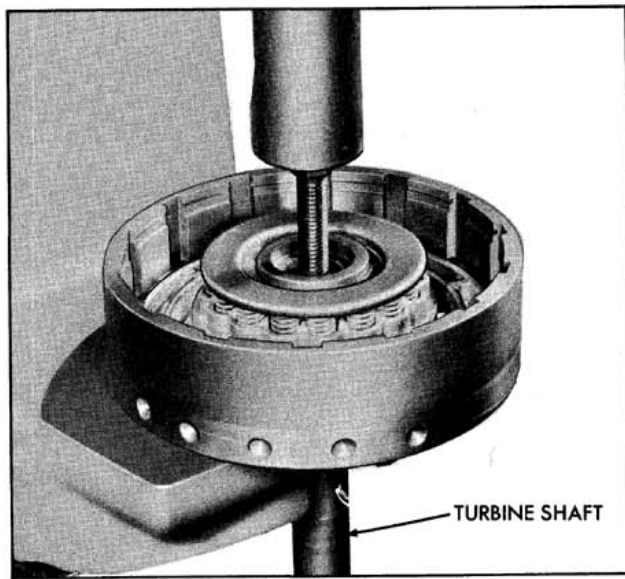

Fig. 6-129 Removing Turbine Shaft
5. Remove the turbine shaft and oil seal by installing in arbor press. (Fig. 6-129)